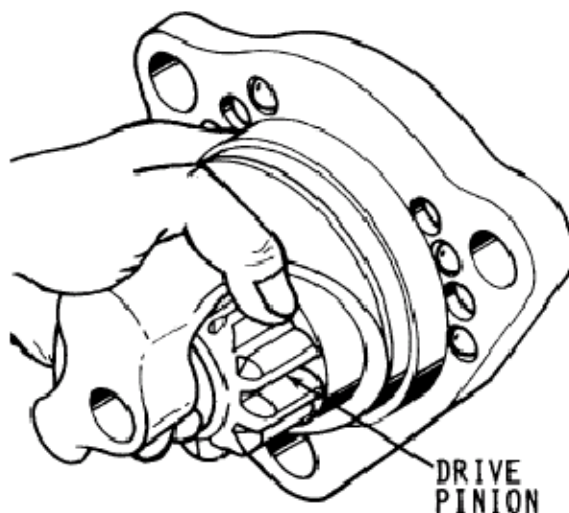

Figure 2-9. Override Check
- 10) Clutch Override. A clockwise (viewed from drive end) torque applied quickly to the drive pinion by thumb pressure when armature is at rest (fig. 2-9) will check overrunning clutch. Drive pinion should rotate without rotating armature.
- 11) Brush Arcing. When armature speed and starter current are both less than minimums indicated in preceding step (3), check for excessive arcing of brushes (Table 2-1; Malfunction No. 8) during a no-load run.